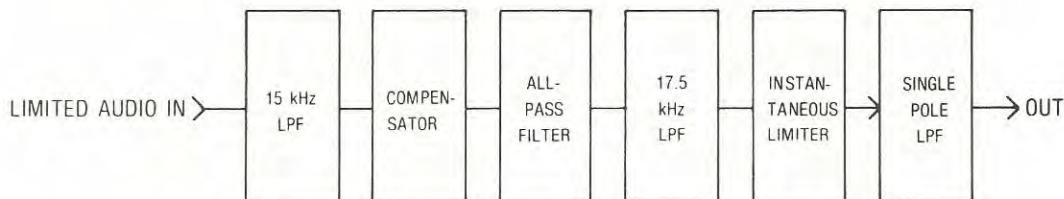

FIGURE 10
**IMPLEMENTATION:** The DTR filter is a system which comprises two lowpass filters, an allpass filter (phase equalizer), and nonlinear compensation circuitry. A block diagram is given in Fig. 10.
The first filter (at extreme left) in Fig. 10 is a seventh order elliptic type with a cutoff frequency of 15 kHz. The second filter is also seventh order elliptic but the cutoff frequency is 17.5 kHz. The second lowpass filter is preceded by an allpass filter which linearizes the lowpass filter's phase from DC to the cutoff frequency of the first filter (15 kHz). The combination of the allpass filter and the second lowpass filter presents an approximately uniform time delay of 100 usec. between DC and 15 kHz.